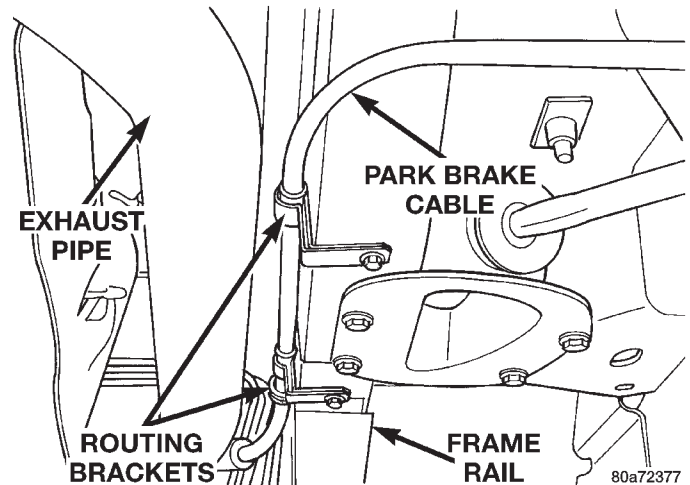
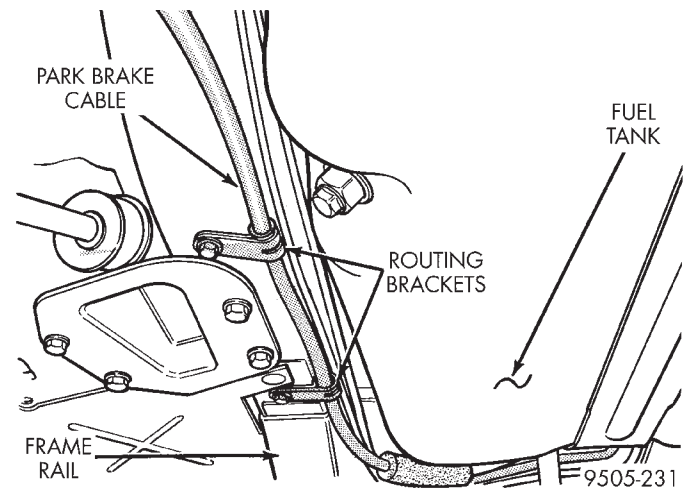

Fig. 159 Park Brake Cable Routing Brackets (Right Side)
Fig. 160 Park Brake Cable Routing Brackets (Left Side)
(24) Remove the 2 routing brackets attaching the right hand side (Fig. 159) or left hand side (Fig. 160) park brake cable to the frame rail.
(3) Install the 2 park brake cable routing brackets (Fig. 159) or (Fig. 160) on the right or left side rear frame rail. Install and securely tighten routing bracket attaching bolts.